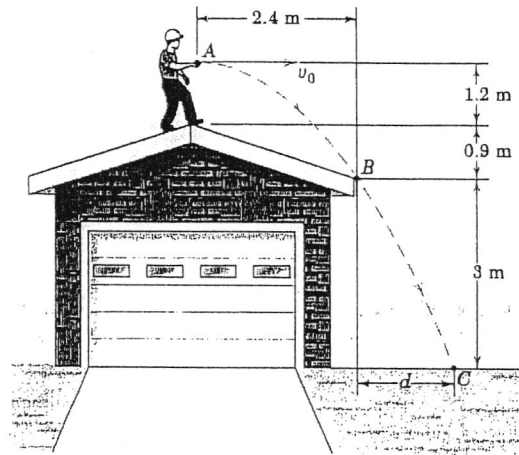

Fig. Q.7
7. A roofer tosses a small tool to the ground. What minimum magnitude of horizontal velocity v_0 is required so that the tool has to just miss the roof corner B? Also determine the horizontal distance d from B to C where the tool will hit the ground as shown in Fig. Q.7. 10+1